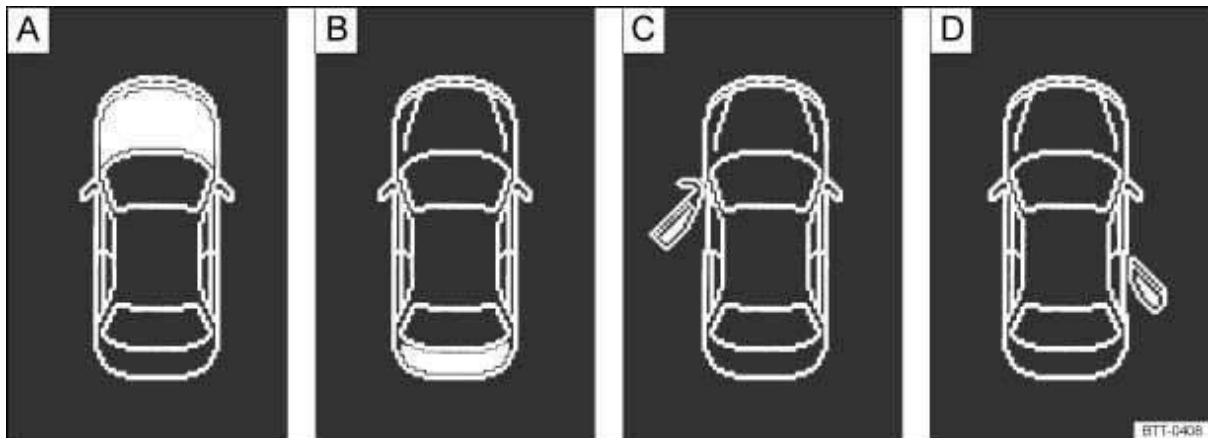

Fig. 13 In the instrument cluster display: A: Open engine hood, B: Open rear hatch, C: Open front driver side door, D: Open rear passenger side door.
- Open door, engine hood, or rear hatch ⇒ fig. 13